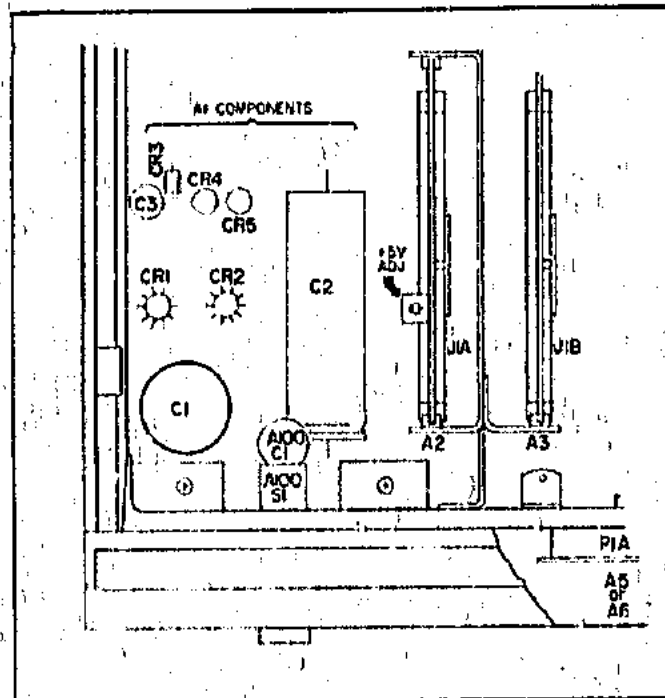

Figure 5-1. Five (5) Volt Adjustment.
c. Adjust A2R1 to give a reading on the voltmeter of $\pm 5 \text{ V} \pm 3\%$. This adjustment screw is shown in Figure 5-1.